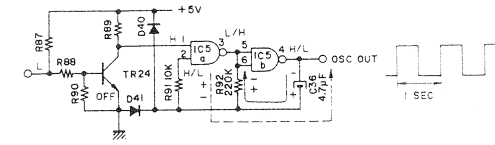

Fig. 10 Oscillation
R92 as shown by the solid line in Fig. 10.
According to this discharging time (the time constant of C36 and R92), there is a drop in voltage at both R92 terminals, so IC5a's input terminal ② is High Level. Once C36 has finished discharging, R92's voltage drop becomes zero so that IC5a's input terminal ② becomes Low Level. When the IC5a input terminal ② becomes Low Level, the output terminal ③ High Level results in IC5b output terminal ④ becoming Low Level and this time, the discharge current flows from IC5a's output terminal ③ through R92 to C36 as shown by the dotted line in Fig. 10.